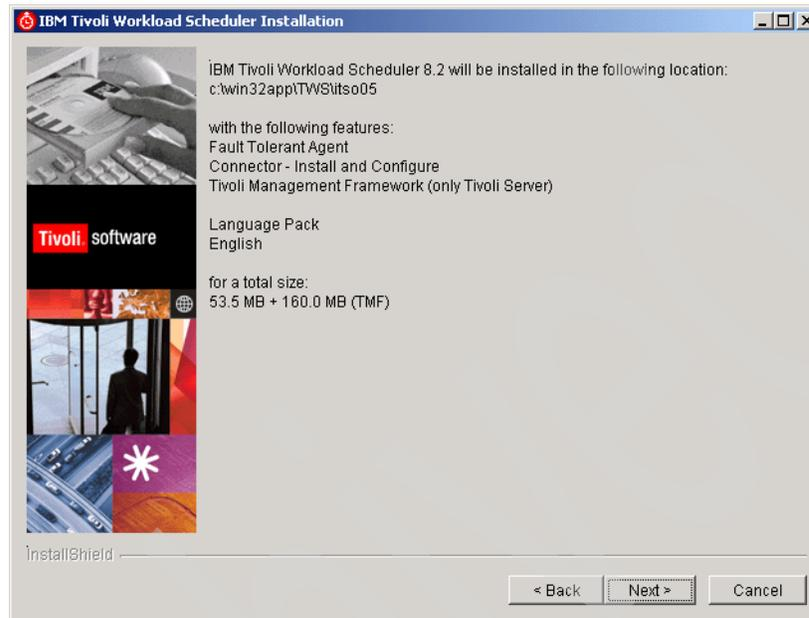

Figure 15-31 IBM Tivoli Workload Scheduler Installation location
12. The summary window in Figure 15-31 shows the directory where IBM Tivoli Workload Scheduler V8.2 will be installed and any additional features that will be added. Click **Next** to conclude the installation.